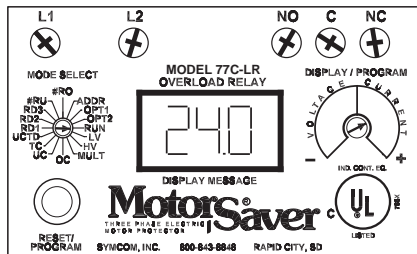

**Figure No. 1: Typical Wiring Diagram**
2. Insert the motor conductors through the round holes marked "A" and "B." Terminate the conductors at the line or load side of the magnetic contactor. **Note: For motors with full load amps less than 2.1 Amps**, loop the conductors through the hole marked "B" according to Table No. 1 below. The rectangular hole behind the hole marked "B" is provided for wire looping. (see Figure No. 1).
3. Connect the single-phase power from the line side of the contactor to "L1" and "L2." First insert a #12 - #18 AWG wire into the top of the terminal marked "L1" and tighten the screw on the front of the overload relay. Then, connect the other end of the wire to the line side of the contactor. Repeat these two steps for "L2." (see Figure No. 1).
4. Connect the output relay to the circuitry to be controlled (see Figure No. 1). To control a motor, connect the normally open contact in series with the magnetic coil of the motor starter as shown. To sound an alarm, connect the normally closed contact in series with the alarm (not shown).